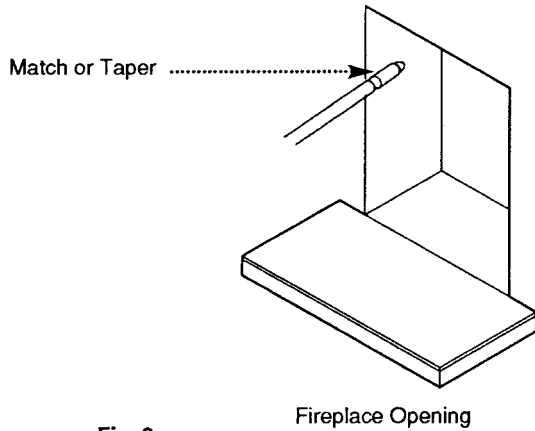

Fig. 9
5. If there is no positive airflow up the chimney **DO NOT FIT THE FIRE**. Seek expert advice before continuing with the installation. A positive flue pull can be detected by holding a lighted match or taper near to the fireplace opening (Fig. 9).